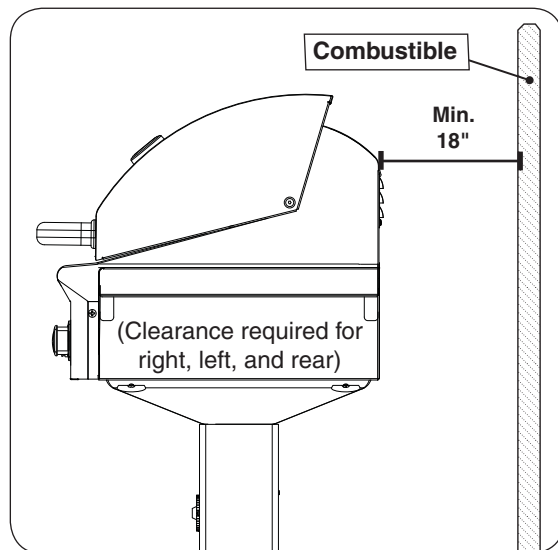

Fig. 8-1 Clearance 'A' Diagram
- The grill must have a minimum of 18" right, left, and rear clearance from any combustible wall (see Fig. 8-1).